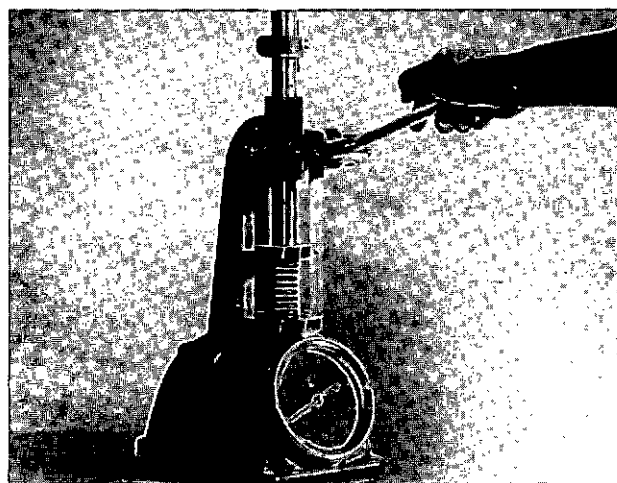

Fig. 2-30, (F60163). Test the injector spring on 3375182
2. Test the spring tension on the spring tester, 3375182, Fig. 2-30. This spring tester is capable of very accurate measurements of spring lengths and applied load by means of standards and the dial indicator gauge, Table 2-3.